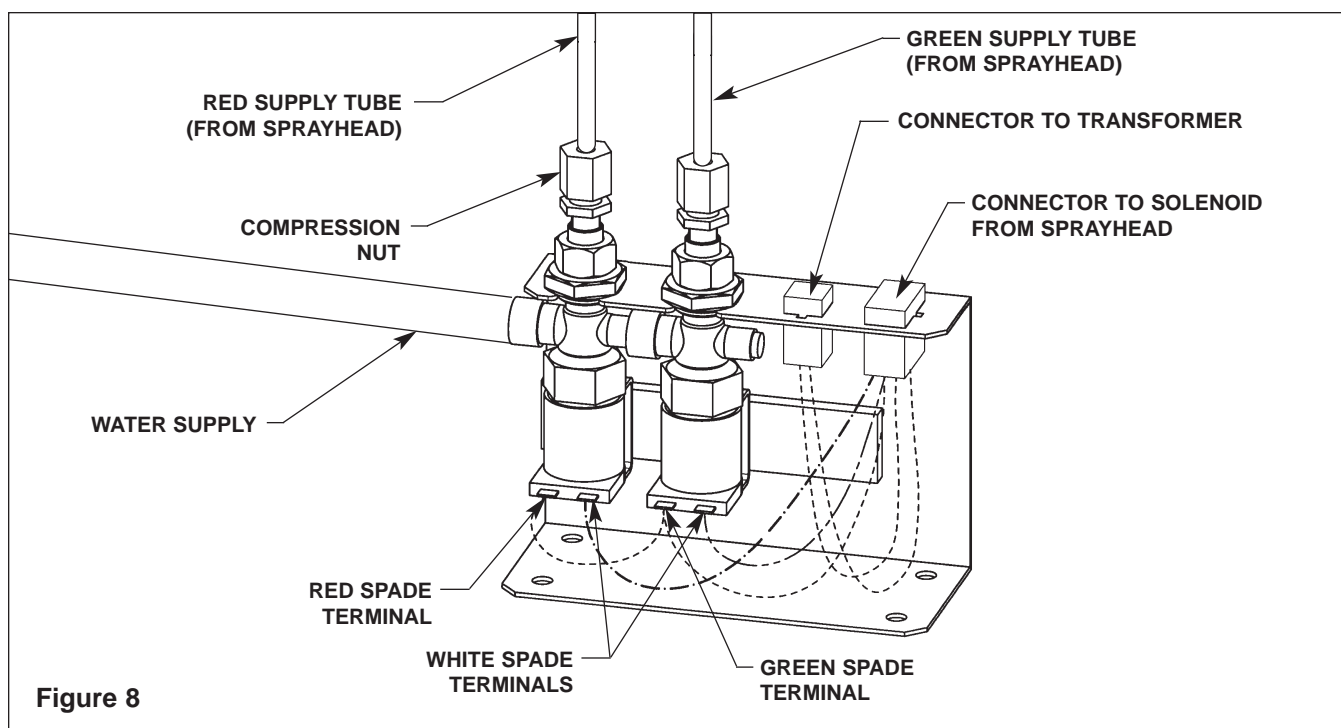

Figure 8
3. Insert the three sprayhead supply tubes into the three solenoid tube connectors by loosening the compression nut and firmly pushing the tubing into the tube connector until the tubes are fully seated, then re-tighten the compression nut hand-tight plus two full turns with a wrench (see Figure 8).